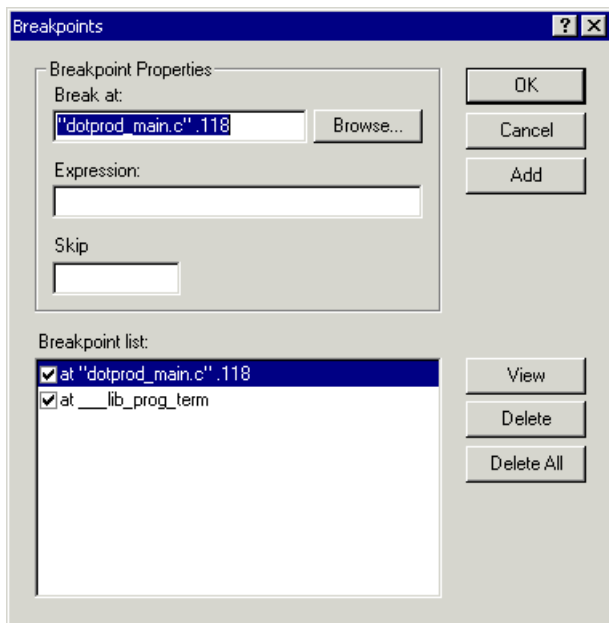

Figure 2-8. Breakpoints Dialog Box
- From the **Settings** menu, choose **Breakpoints** to view the breakpoints set in your program. VisualDSP++ displays the **Breakpoints** dialog box, shown in Figure 2-8.